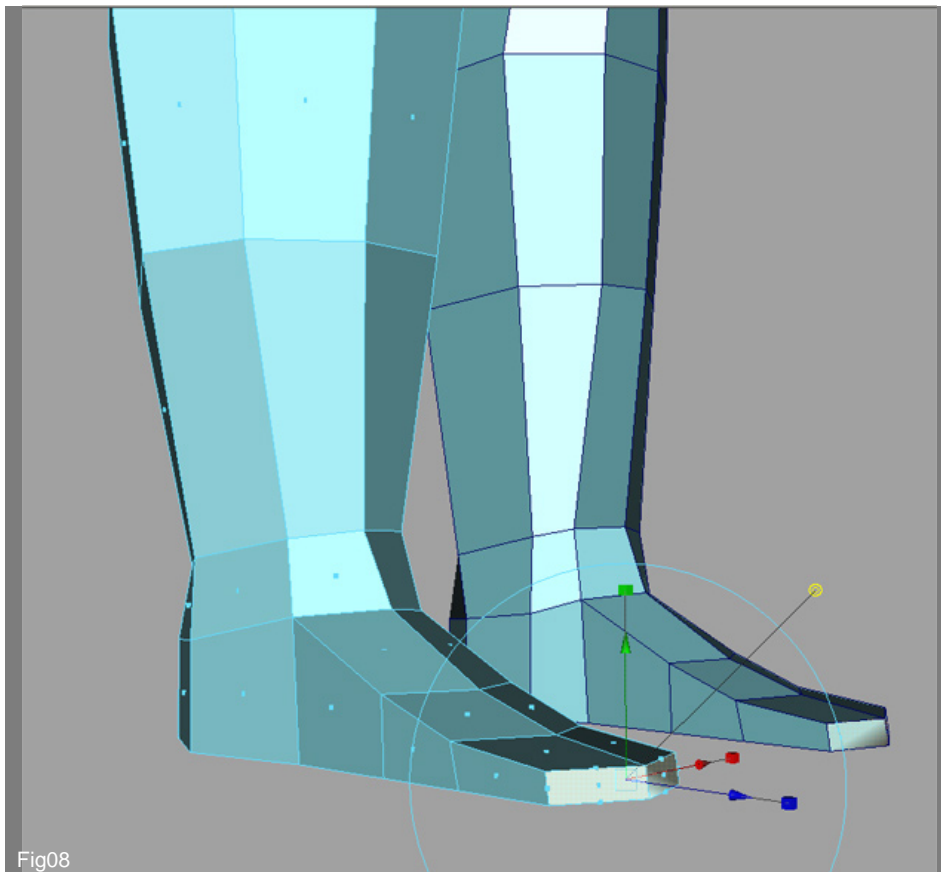

Fig08
8. Select the two front faces and extrude a them few times to form the foot. (Fig08).